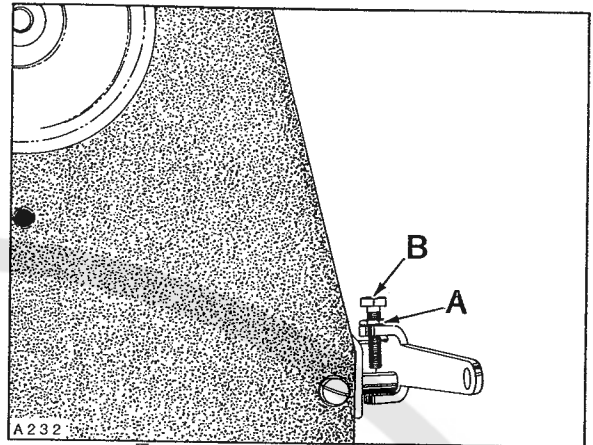

Fig. 26
Loosen lock nut (A, Fig. 26) and adjust screw (B) in presser foot lifter lever, allowing presser foot to be raised to its highest position without interfering with needle head. Lock nut (A) securely.